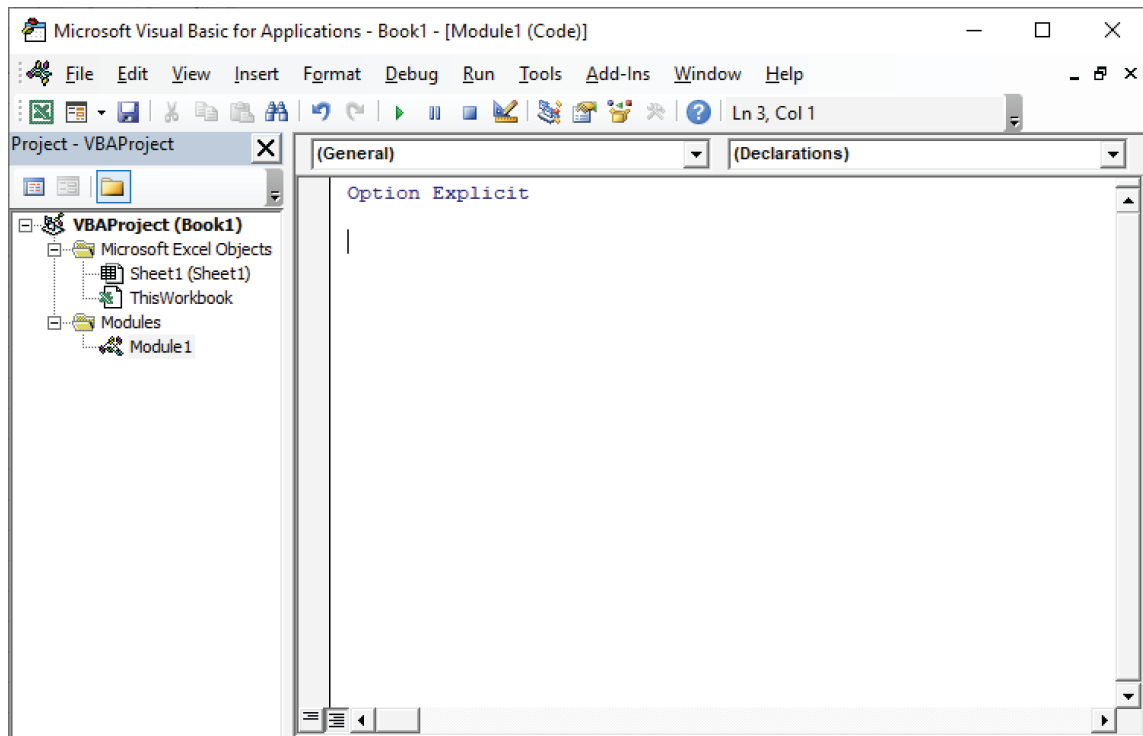

Figure 9.56: A new code window in the Visual Basic Editor
4. Right-click anywhere on the project and choose Insert ⇨ Module. A new code window will appear as shown in Figure 9.56.